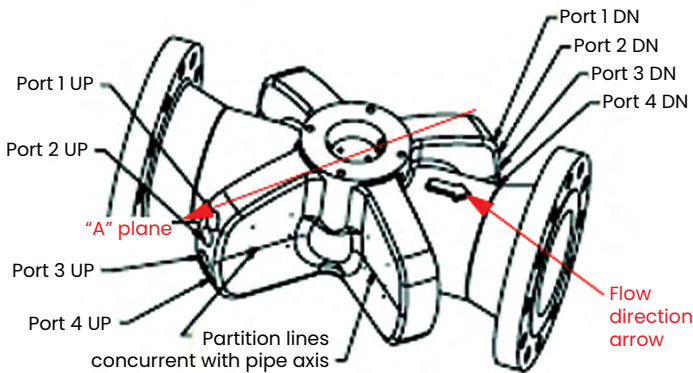
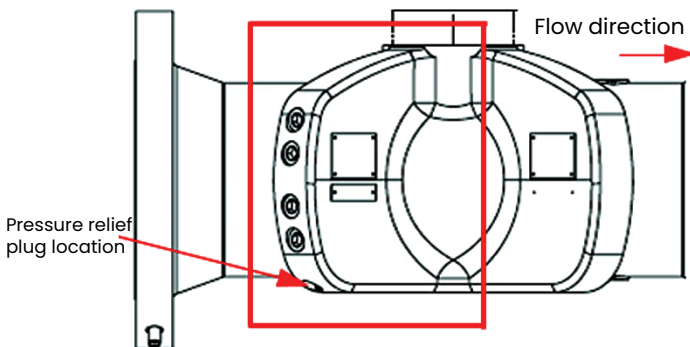

Figure 90: Upstream "A" plane sensor quadrant - top view
Figure 91: Upstream "A" plane sensor Quadrant - side view
To relieve the system pressure, see *Figure 90* below and *Figure 91* below to complete the following steps:
2. Relieve potential pressure build-up by loosening the *pressure relief plug* on the bottom of the upstream "A" plane sensor quadrant (see *Figure 91* above), using a 10 mm hex drive socket or wrench. Slowly loosen the pressure relief plug 2-3 full turns or until the plug bottoms out on the built-in safety stop.